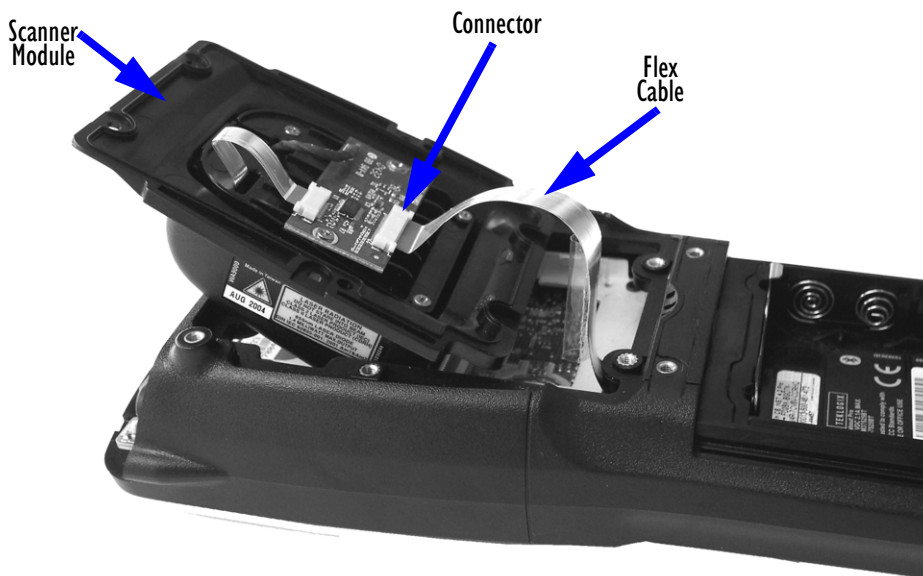

Figure 8.9 Attaching The Flex Cable To The Scanner Module
- Insert the flex cable into the connector on the scanner module (refer to Figure 8.9 on page 264). If necessary, use pincers to hold the flex cable.